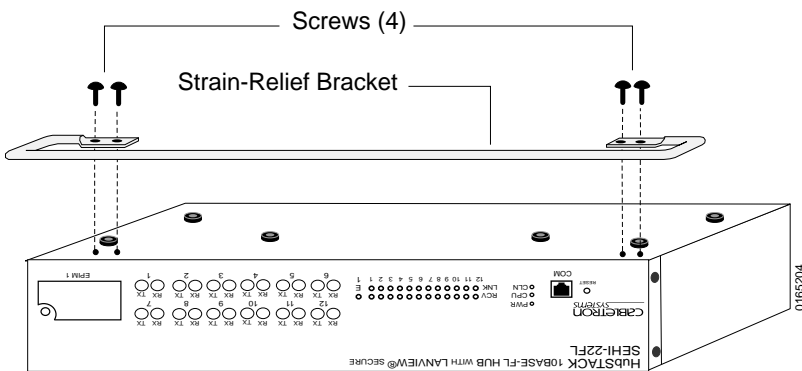

Figure 4-3 Attaching the Strain-Relief Bracket
2. Attach the strain-relief bracket to the bottom of the SEHI (Figure 4-3).